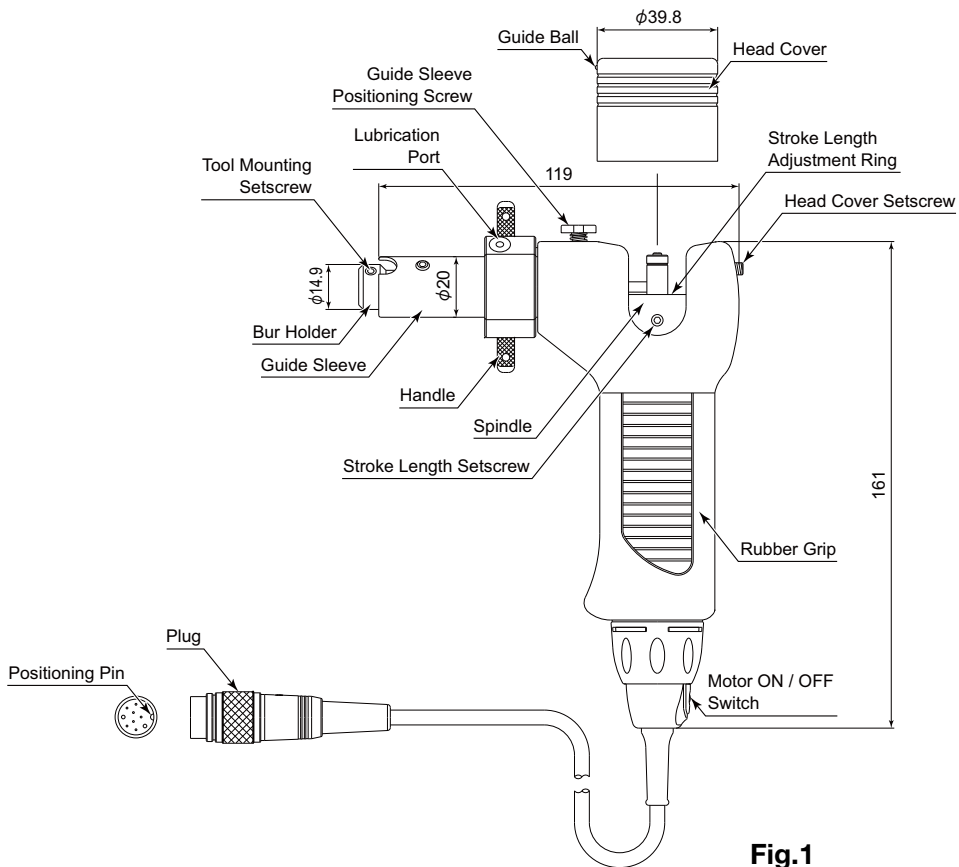
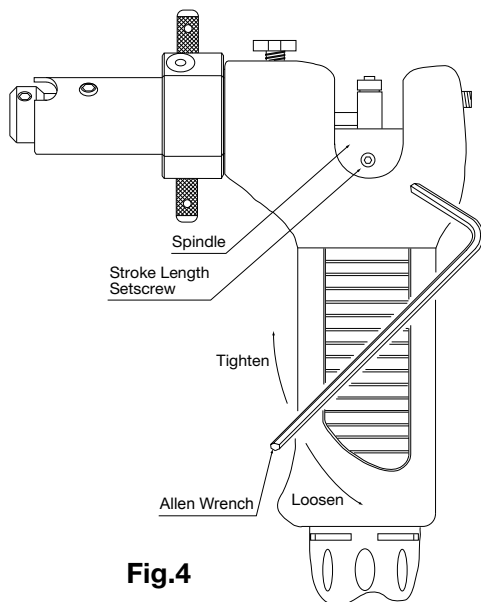

Fig.1
Fig.4
- Align the cord plug with the jack of the control unit and push in. **(Fig.1)**
ON/OFF of the motor can be made either at the grip or at the control unit. **(Fig.1)**
- ① Loosen the head cover setscrew with the supplied Allen Wrench (**Fig.1**).
- ② Slide the head cover upward and remove. (**Fig.1**).
- ③ Loosen the stroke length setscrew with the Allen Wrench (**See Fig.4**).
- ⑤ Tighten the stroke length setscrew with the Allen Wrench (**Fig.4**).
- ⑥ Insert the head cover and push it down, aligning the guide groove on LUSTER and the guide ball on the head cover.
- ⑦ Fasten the head cover setscrew with the Allen Wrench (**Fig.1**).
- ⑧ Choose the motor speed in accordance with the stroke length as shown in Graph - 1. Operate LUSTER avoiding abnormal vibration.